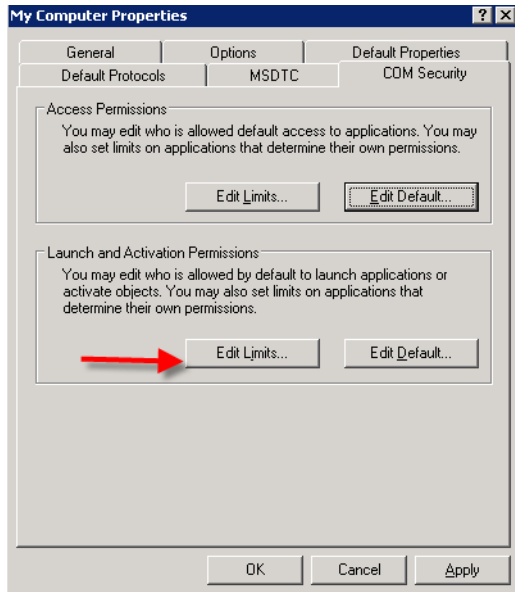

Figure 2-44 Edit Limits
- In the My Computer Properties window, open the **COM Security** tab as shown in figure 2-44. Under *Launch and Activation Permissions*, click on the **Edit Limits** button.